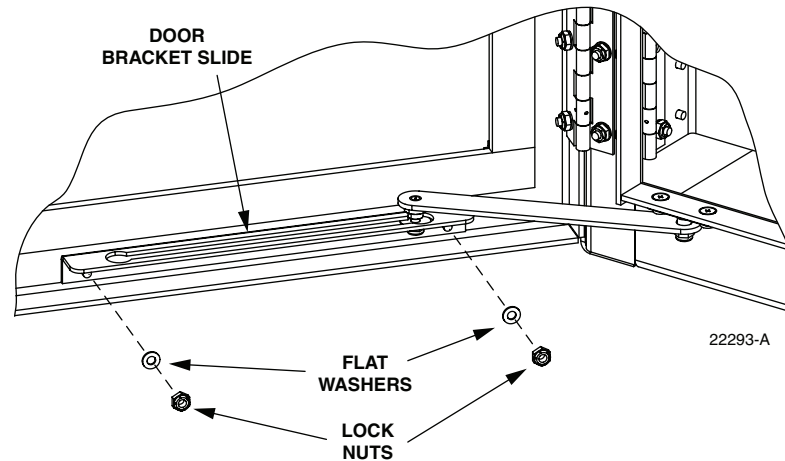

Figure 51. Door Bracket Slide Hardware
2. Use a 3/8-inch nut driver to remove the locking nuts and washers that secure the door bracket slide to the bottom edge of the door as shown in Figure 51. Save the nuts and washers for reuse.